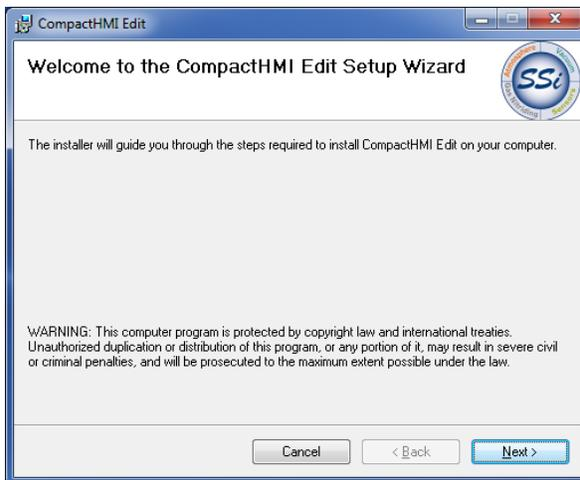
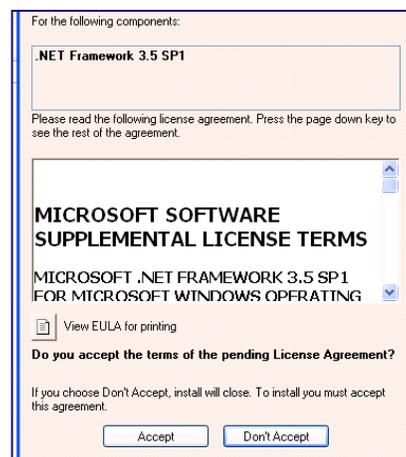

Figure 3 - Compact HMI Editor Setup Wizard screen
Figure 4 - .NET Framework 3.5 Setup Screen (will appear if needed)
- Microsoft .NET Framework 3.5. Compact HMI Editor setup will install this package if it is not already present on the computer where Compact HMI Editor is being installed (see Figure 4). Version 3.5 is required.
If Microsoft .NET Framework 3.5 is installed, the Setup Wizard will appear (Figure 3). If .NET Framework 3.5 is not installed, the Setup Wizard will first prompt you to install .NET Framework 3.5 (Figure 4). .NET Framework must be installed before Compact HMI Editor is run. An Internet connection is needed in order to download the required files for .NET Framework 3.5.